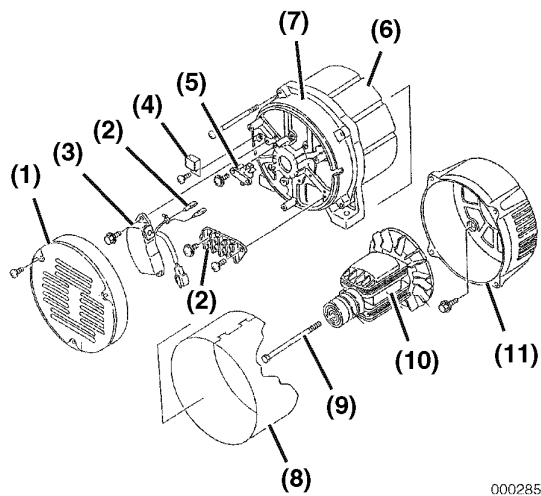
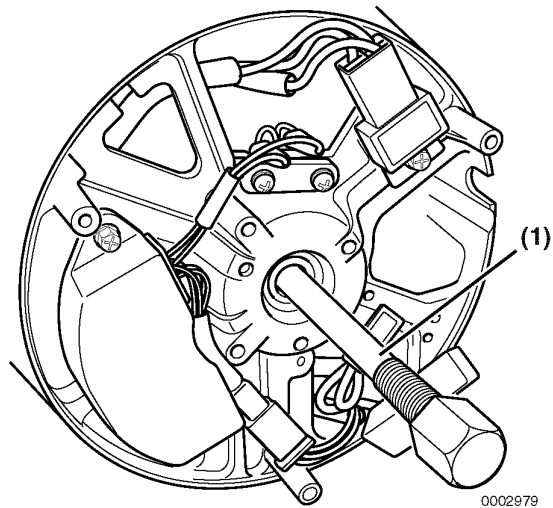

Figure 7-31
Figure 7-32
2. Remove the generator cover screws and the generator cover (**Figure 7-31, (1)**).
5. Remove the two bolts fastening the AVR (**Figure 7-31, (3)**) and remove the AVR.
6. Disconnect the electrical connector from the rectifier and remove the one bolt fastening the rectifier (**Figure 7-31, (4)**) and remove the rectifier.
7. Remove the two bolts fastening the brush holder (**Figure 7-31, (5)**) and remove the brush holder together with the brushes.
8. Remove the four bolts fastening the rear housing to the front housing and remove the stator (**Figure 7-31, (6)**) together with the rear housing (**Figure 7-31, (7)**) and band (**Figure 7-31, (8)**).
11. Remove the rotor through bolt (**Figure 7-31, (9)**).
13. To remove the rotor (**Figure 7-31, (10)**), install the appropriate special rotor removal tool (**Figure 7-32, (1)**). *See Special Tools on page 7-9.*
16. Remove the four front housing screws and front housing from engine block (**Figure 7-31, (11)**).